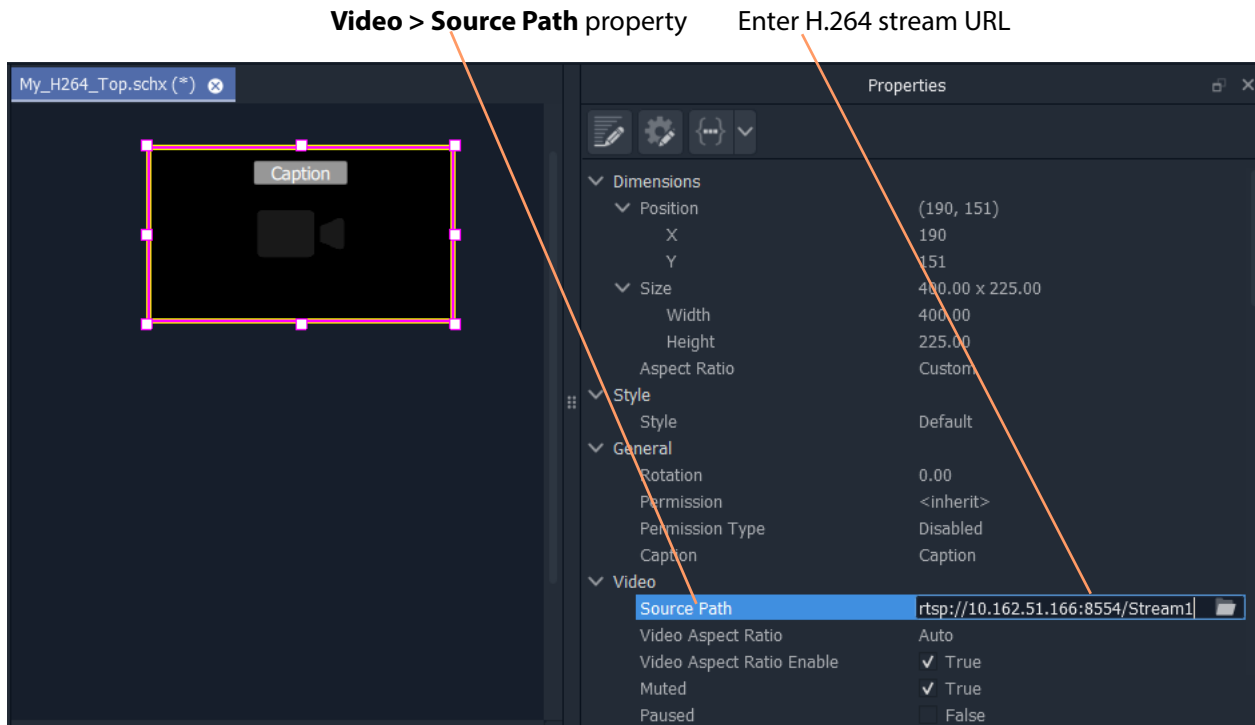

Fig. 4-7: Enter URL for **Video > Source Path** Property
- 5 Select the widget on the panel and edit the **Video > Source Path** widget property: Enter the RTSP stream URL. (See Figure 4-7.)